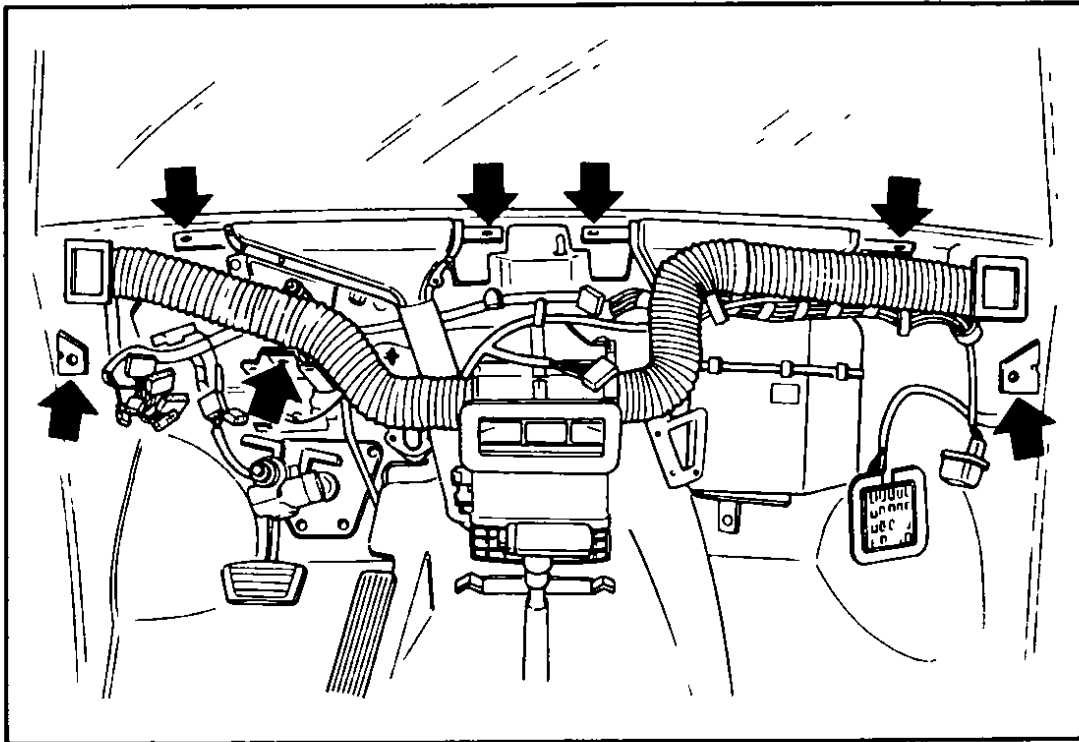

Fig 75 Panel attaching bolt locations – Model 610
- 8 Loosen the bolts attaching the instrument panel and draw the instrument panel assembly out backward from the car, Fig 75